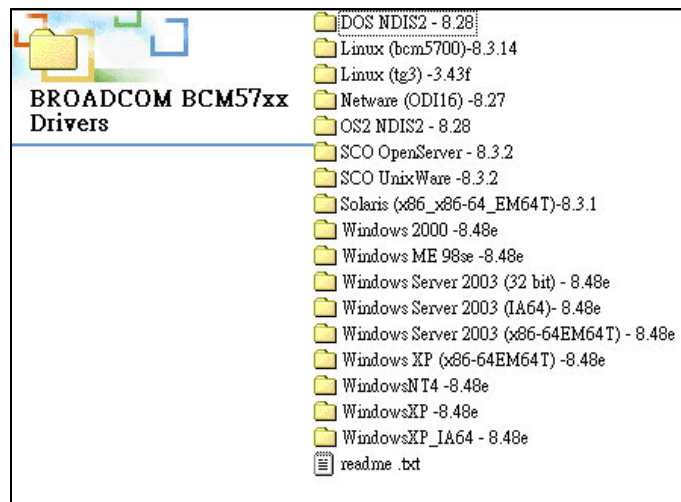

Figure 7-21: Location Browsing Window
Step 37: Select the proper OS folder under the **“X:\I3-LAN\BROADCOM BCM57xx Drivers”** directory (Figure 7-21) in the location browsing window, where **“X:\”** is the system CD drive.